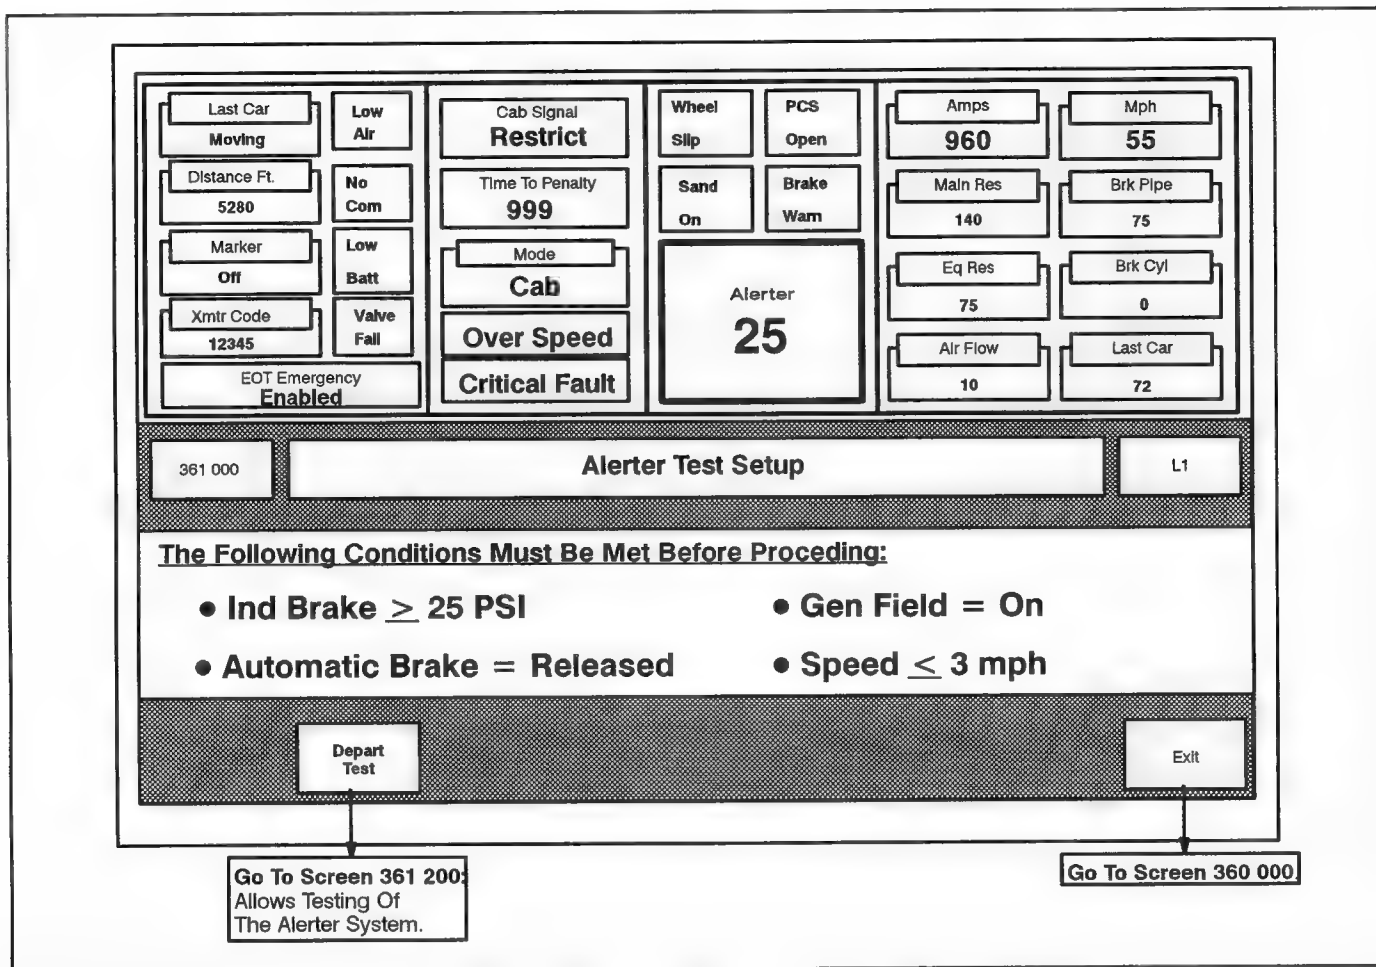

FIG. 47. ALERTER TEST SETUP SCREEN (361 000). E-40984.
1. Pressing key position F1 (**Alerter Tests**) will display screen 361 000 (Fig. 47). This key is only active if the EC Switch is in RUN position and unit speed is below three mph (not available on the Crew Display). The active keys and a brief description are as follows: